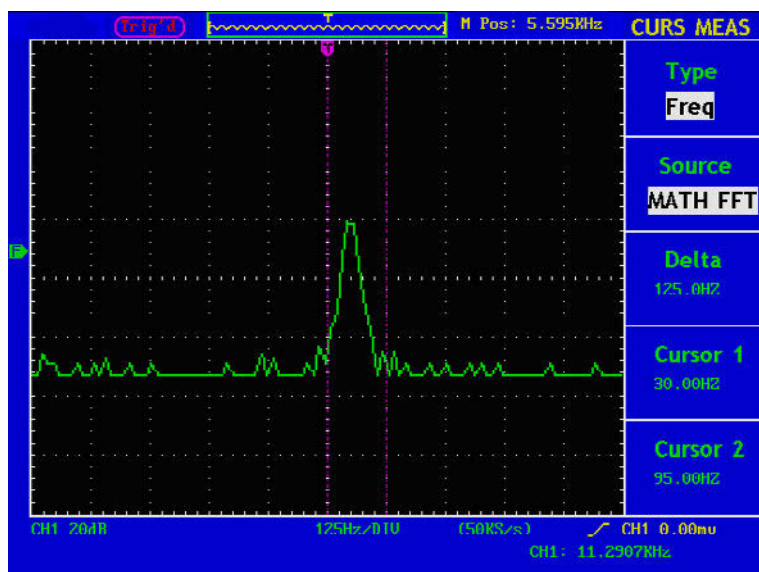

Figure 70. Wave of Freq cursor measurement.
- 3 Adjust the positions of CURSOR1 and CURSOR2 according to the measured waveform, with the period and frequency of Cursor1 and Cursor 2 displayed in the increment window. The current position of Cursor1 is displayed in the Cursor1 window and that of Cursor2 is displayed in the Cursor2 window (see Fig. 70).